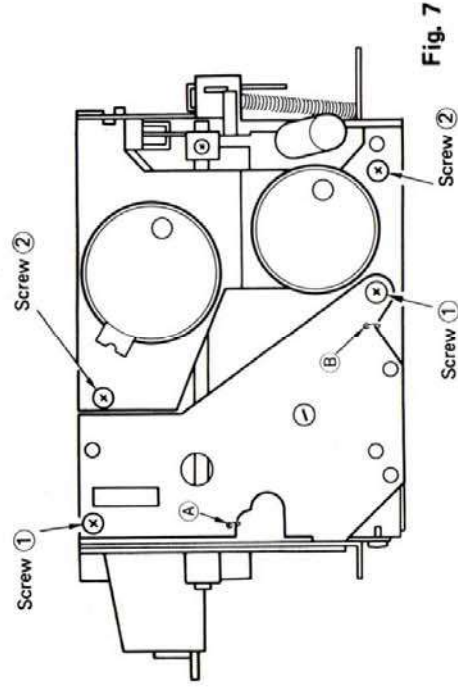

Fig. 7
- 1) Remove the Inter connect P.C. Board and play solenoid as described in procedure 2 above, and then take off 2 springs at points A and B shown in Fig. 7.
- 2) To remove the flywheel, remove 2 screws ① shown in Fig. 7.
- 2) To remove the motor holder, remove the 2 screws ② shown in Fig. 7.